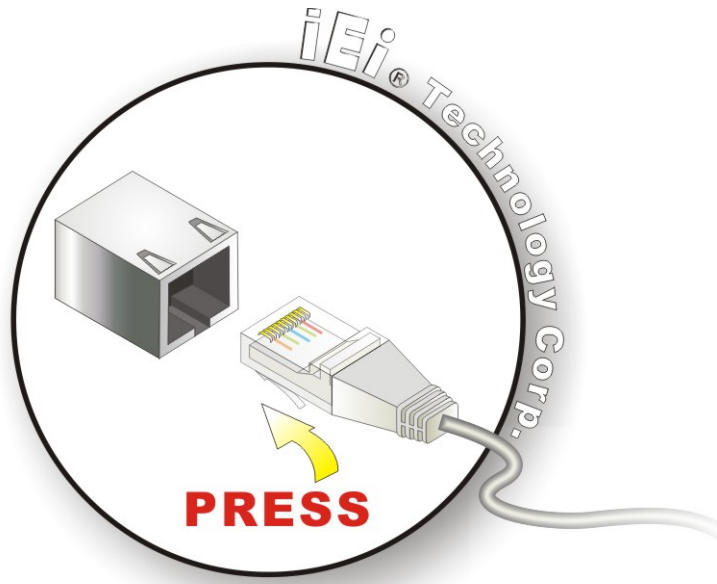

Figure 5-14: LAN Connection
Step 2: Align the connectors. Align the RJ-45 connector on the LAN cable with one of the RJ-45 connectors on the KINO-945GSE. See Figure 5-14.